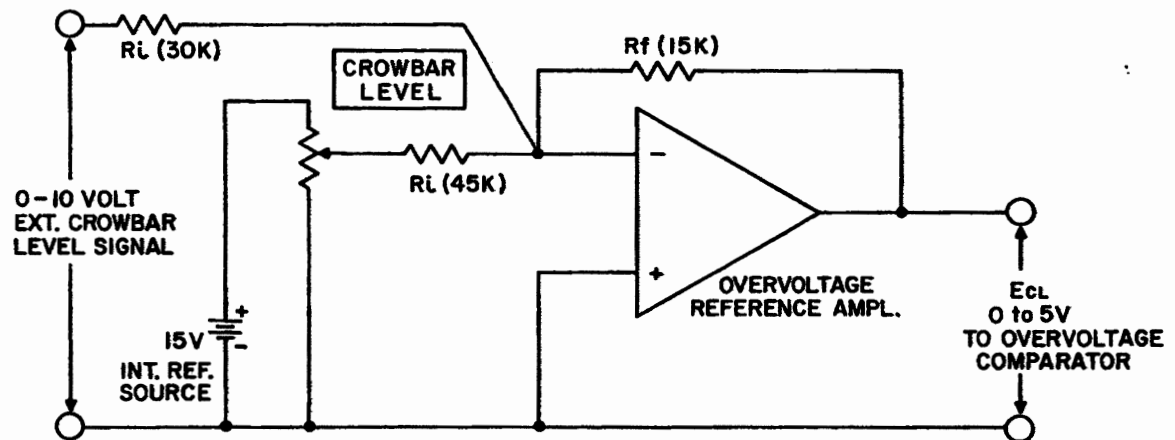

FIG. 4-5 GENERATION OF THE INTERNAL CROWBAR LEVEL SIGNAL.
- 4-14 The crowbar level may be adjusted locally by the provided CROWBAR LEVEL front panel control, or it may be externally controlled by means of a 0–10 volt d-c signal. For internal control, the crowbar level is produced by the OVERVOLTAGE REFERENCE AMPL. and the internal REFERENCE SOURCE (SEE FIG. 4-5).
- 4-15 An operational amplifier (OVERVOLTAGE REFERENCE AMPL.) is used in an inverting configuration, as shown in FIG. 4-5. The output equation for this circuit is: $E_{CL} = E_r (R_f/R_i)$. Inserting circuit values from FIG. 4-5.